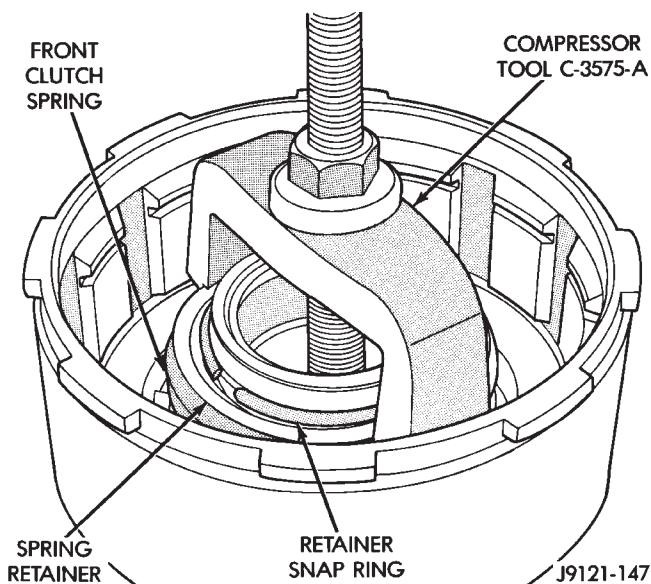

Fig. 53 Compressing Front Clutch Piston Spring
(2) Compress clutch piston spring with Compressor Tool C-3575-A (Fig. 53). Be sure legs of tool are seated squarely on spring retainer before compressing spring.
(3) Remove retainer snap ring and remove compressor tool.
(7) Compress piston spring and retainer with Compressor Tool C-3575-A (Fig. 53). Then install new snap ring to secure spring retainer and spring.